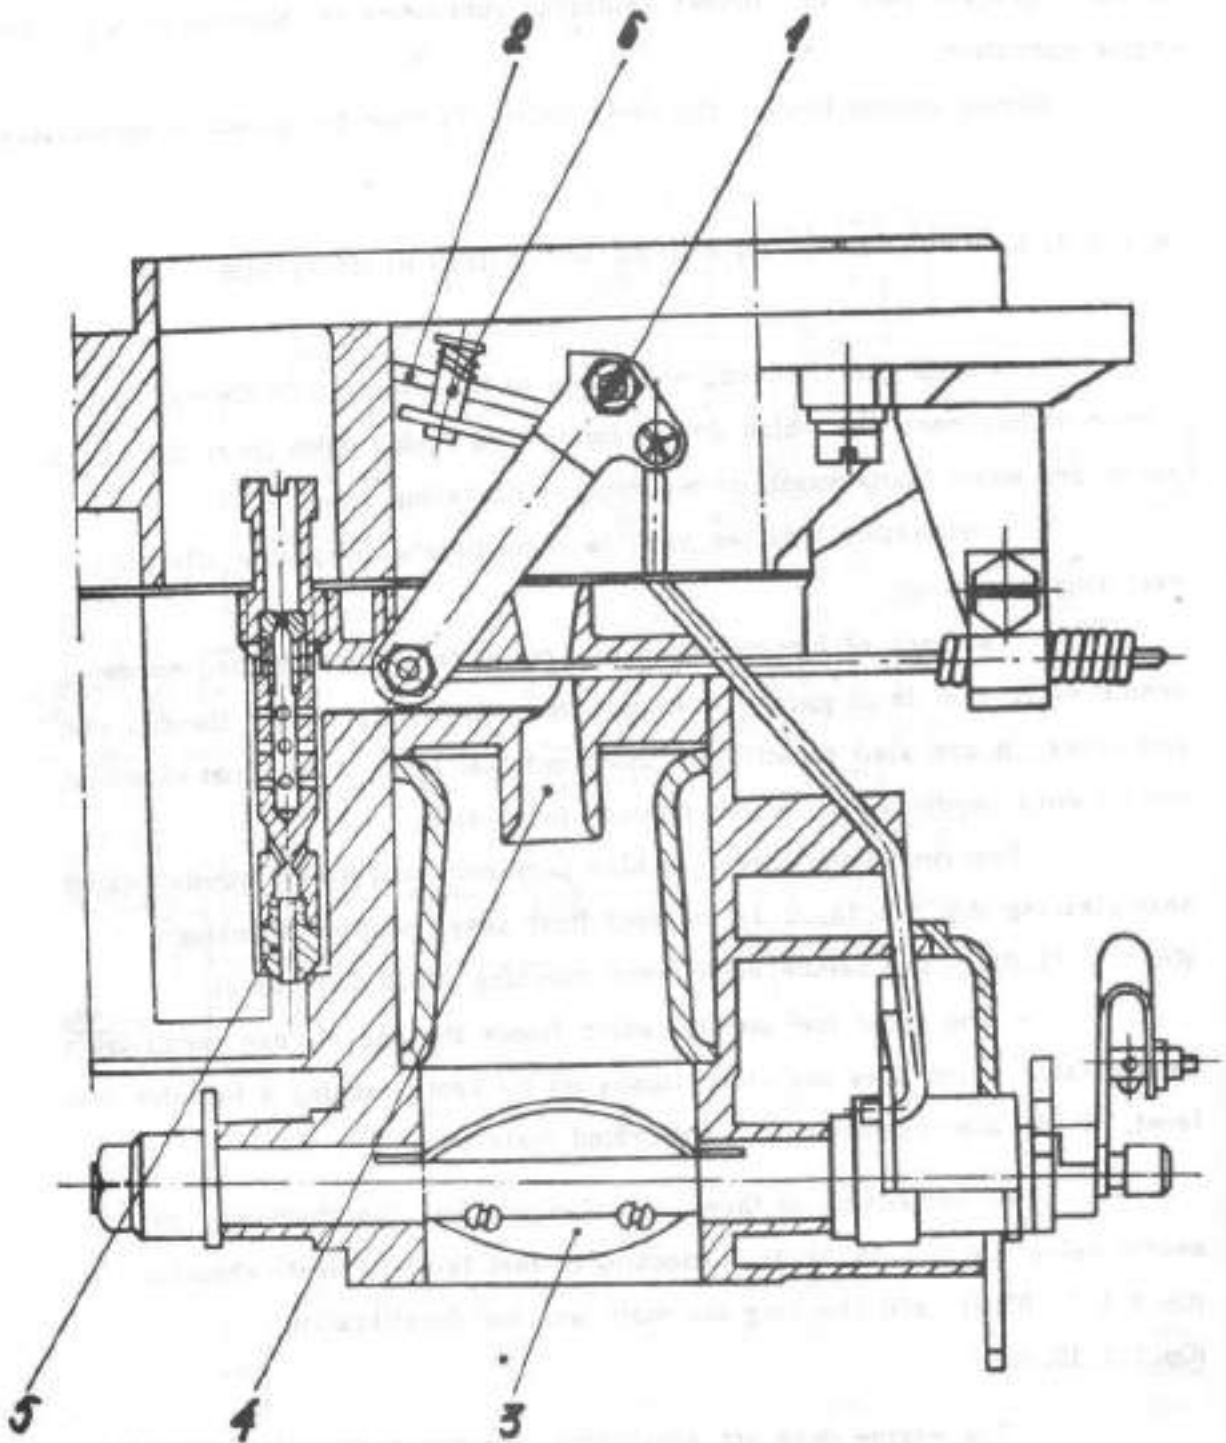

Fig. 4.11. ENGINE STARTING MECHANISM
Pulling the choke, the control lever (1) see fig. 4.11 rotates the choke valve 2 closing the air access to mixture chamber.
- Check if choke valve is normally opened and if, on a slight depressing of its spring tappet, it opens more (see fig.4.11, tappet (6)).
- Check if on rotating the choke shaft (1) the valve oscillate correctly, closing its inlet, in its position "Choke pulled".